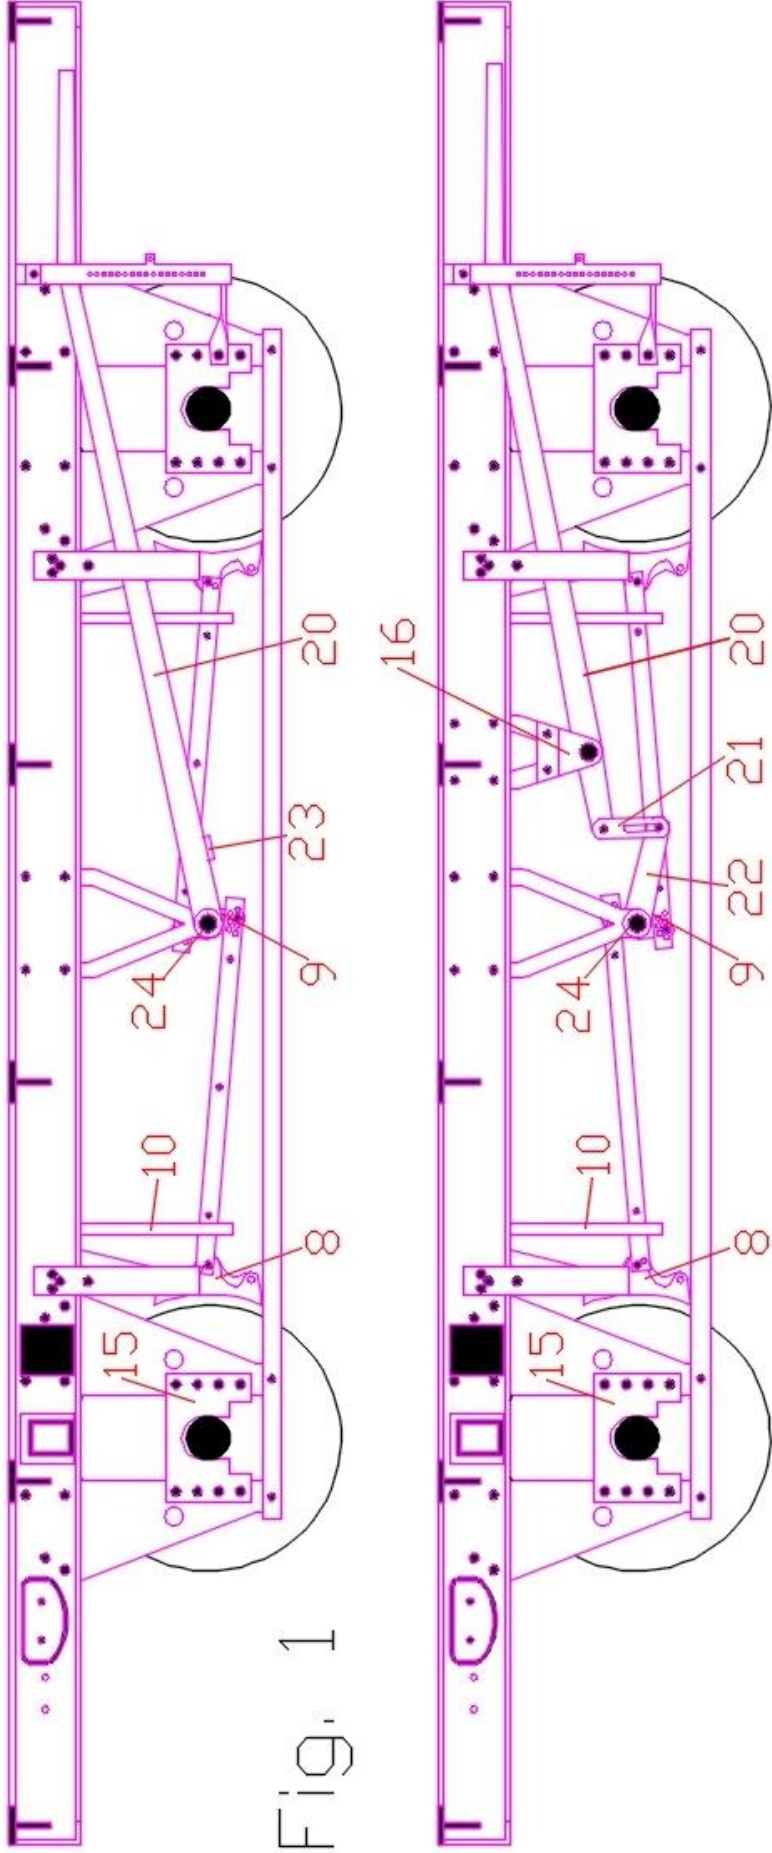

Fig. 1
The solebar overlays are designed to fit into the slots in the solebars. The completed solebar then locates into the slots in the chassis top plate. Locate the solebar detailing overlay in the solebar and tack solder in place. Note that there is a right way up for all the overlays (if in doubt the notches for the brake lever guards, side support brackets and door springs should coincide with those in the solebar) and also a correct side for the solebar detailing on chassis, i.e. the rivets in the centre of the detailing should line up with the vees. See Fig. 1 if you are unsure. Do one solebar at a time and lightly solder in place once happy with the fit.
There are tabs on the brake shoes that locate into slots in the axleguard assembly (2). The outer ones are for EM/P4 and the inner ones for OO. Once located in place they can be soldered in. Make sure that the brakes are hard up against the axleguard assembly. The holes can also be used to help pin the brake shoes to the chassis top plate when soldering. Make sure that the brake shoes go in the correct place. Refer to prototype pictures or Fig1. Repeat the process for the other brake shoes.